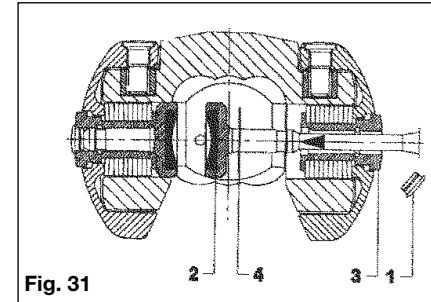
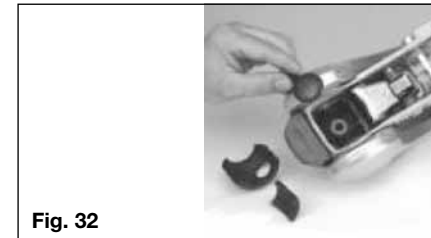

Fig. 31
Fig. 32
2. Remove protective caps (Fig. 31/Item 1) with the aid of a small screwdriver.
3. Press worn out pad inwards and remove (use punch and hammer) (Fig. 31/2)
4. Insert new friction pad from below (after first re-inserting shim washers if they were present) and press in as far as it will go (Fig. 31/Item 4 & Fig. 32).